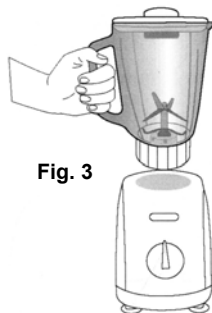

Fig. 3
5. Before placing the assembled blender jar on the power base, make sure that the unit is not plugged in and that the speed control dial is in the "OFF" position. (Fig. 3)